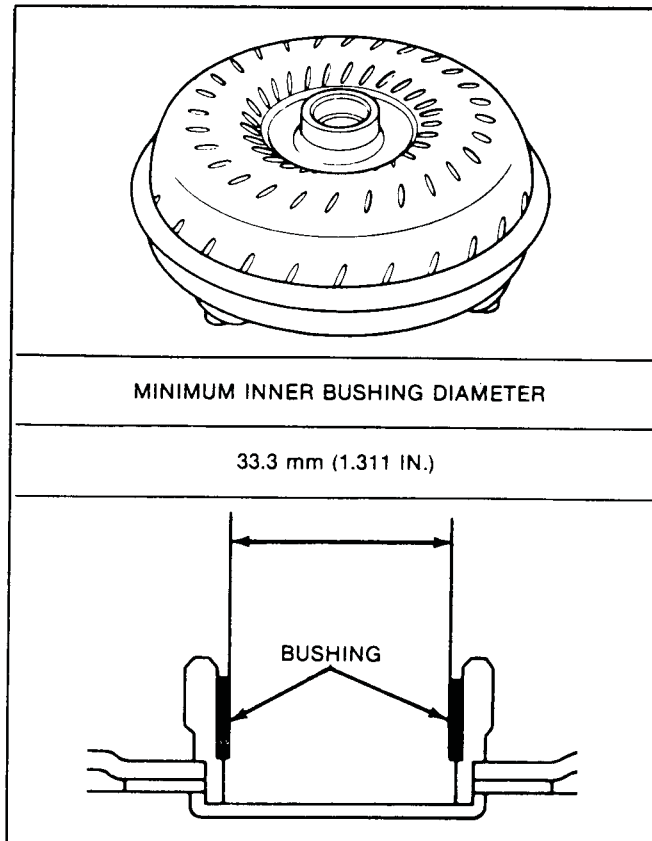

Figure 7A-40 Converter Assembly
3. Measure the bushing in the boss and, if worn, replace the converter assembly (Figure 7A-40).